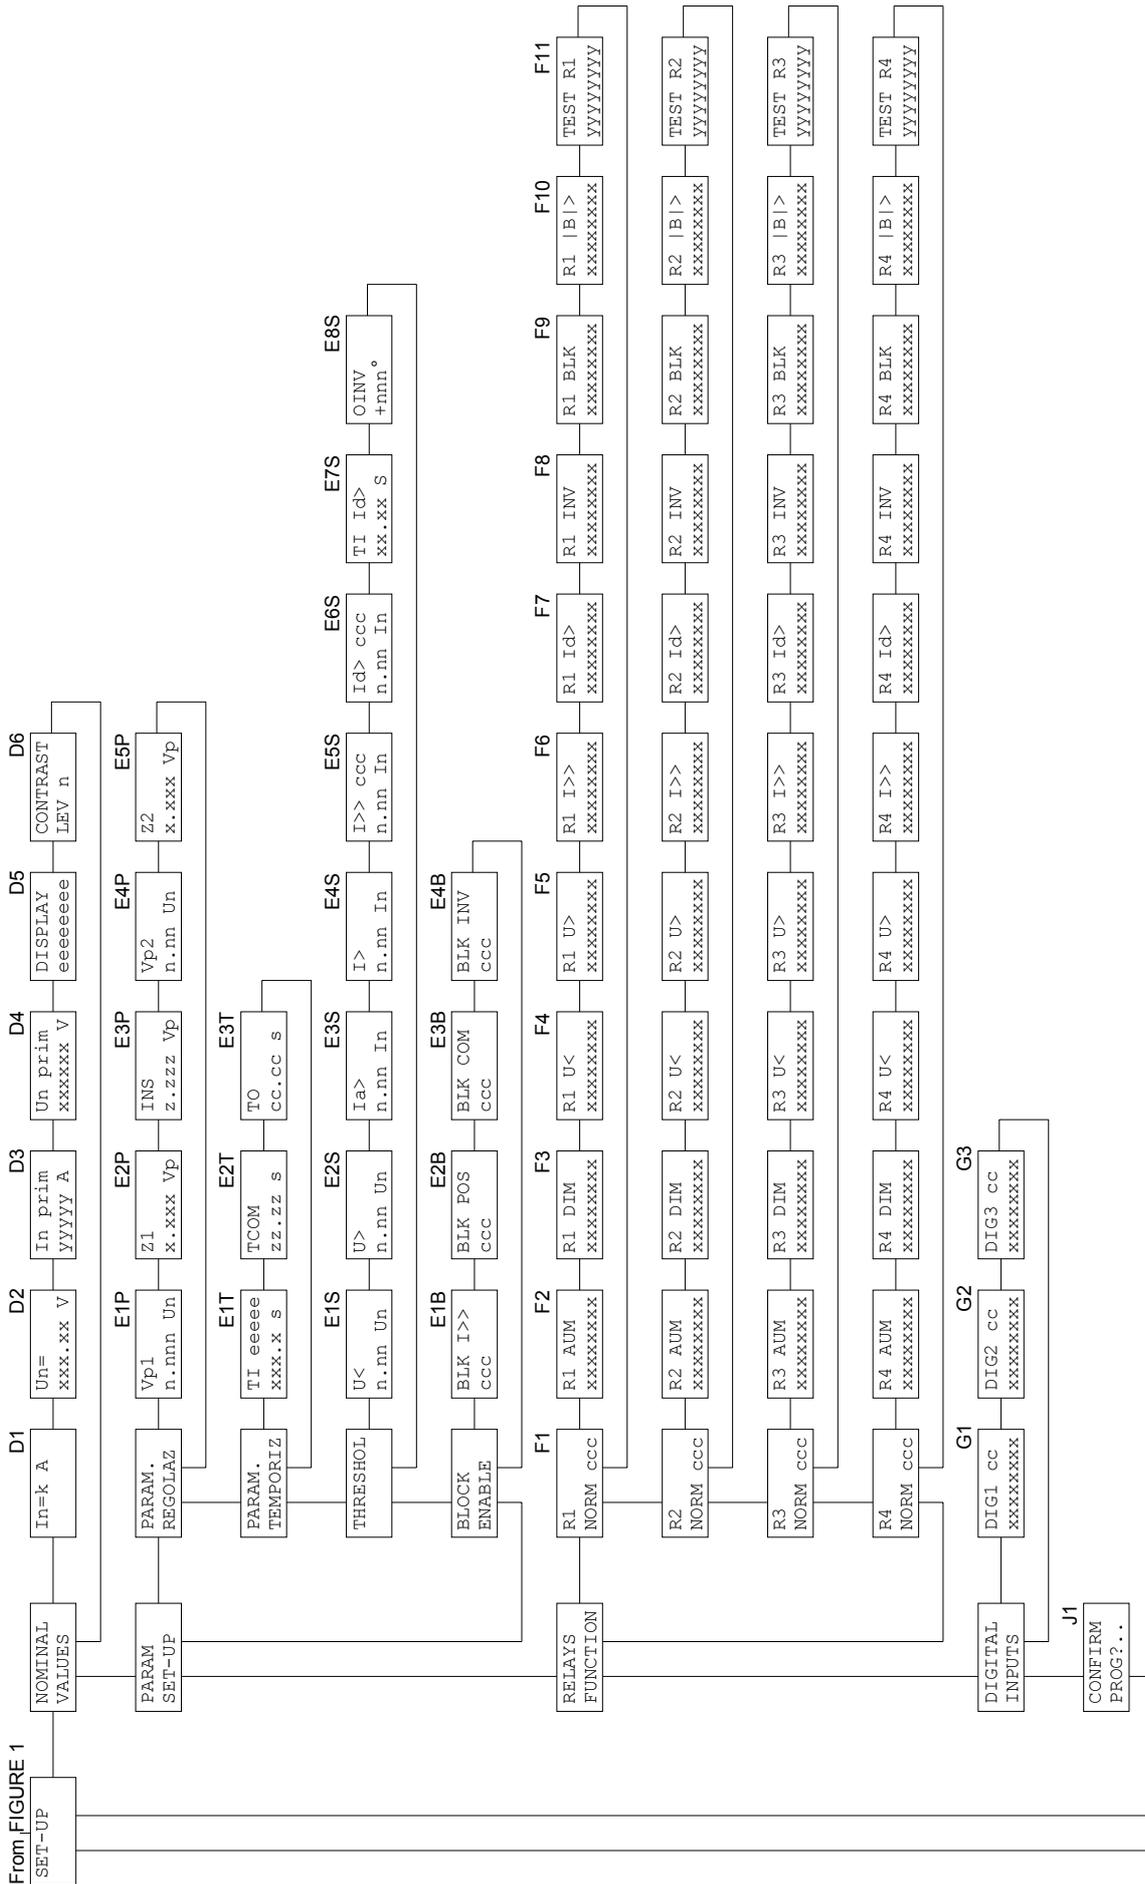
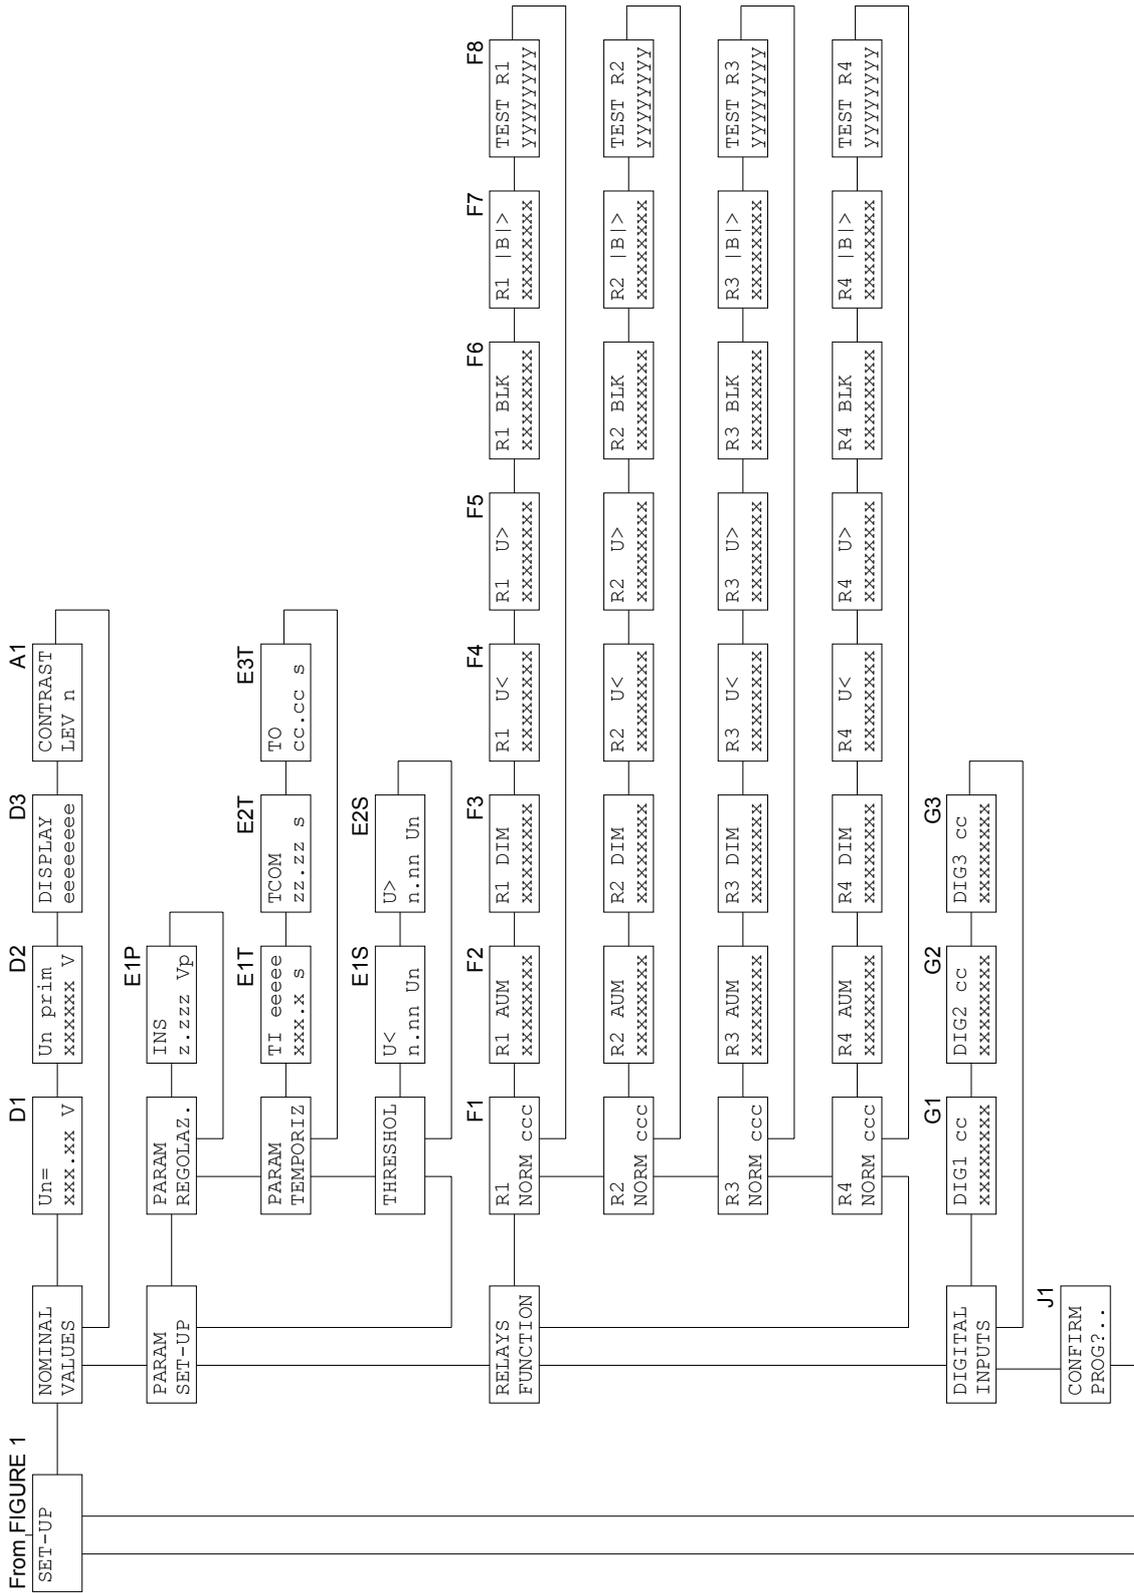

Figure 2
Figure 4
When the output relays test is selected (Fig. 2, ref. F11 and Fig. 4, ref. F8) it is possible to command an output relay (one at the time) to trip from the current status allowing functional tests on electrical plants.
6.1 Nominal values set-up (fig. 2)